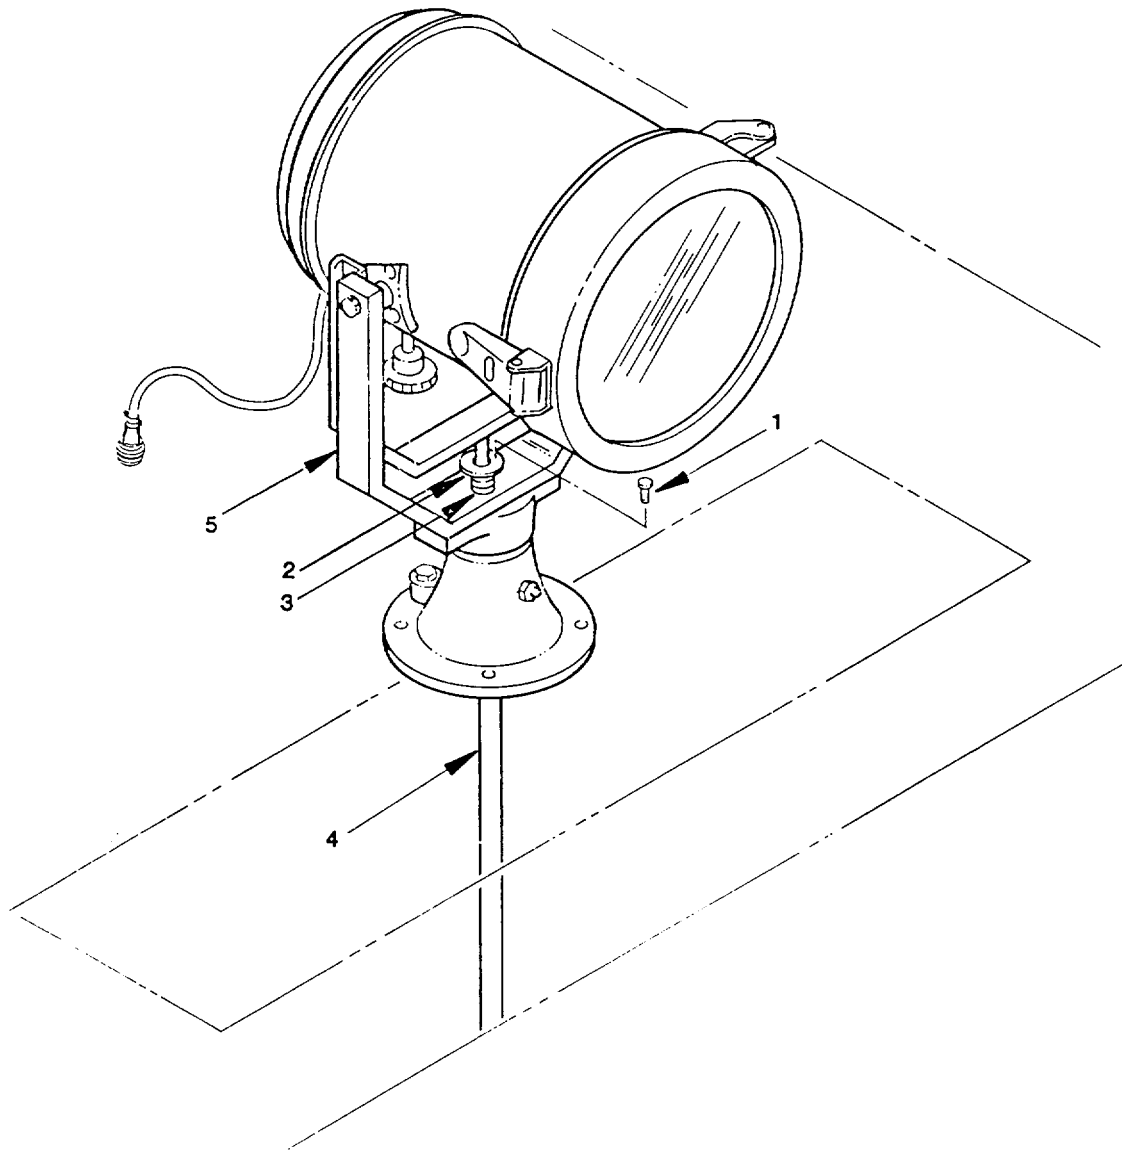

Figure 2-148. Push-Rod Packing, Spotlight. Remove/Install.
a. *Remove.* (figure 2-148)
(1) Disconnect all power to the spotlight..
(2) Remove the two screws (1), slide the packing flange (2) up the push-rod (4) and remove the push-rod packing (3).
b. *Install.* (figure 2-148)
(1) Wind the 10 inch length of replacement push-rod packing (3) around the push-rod (4) and work it tightly into the pocket in the harp (5).
(2) Slide the packing flange (2) back down the push-rod (4) and tighten the screws (1) to compress the packing (3).
(3) Connect all power to the spotlight.